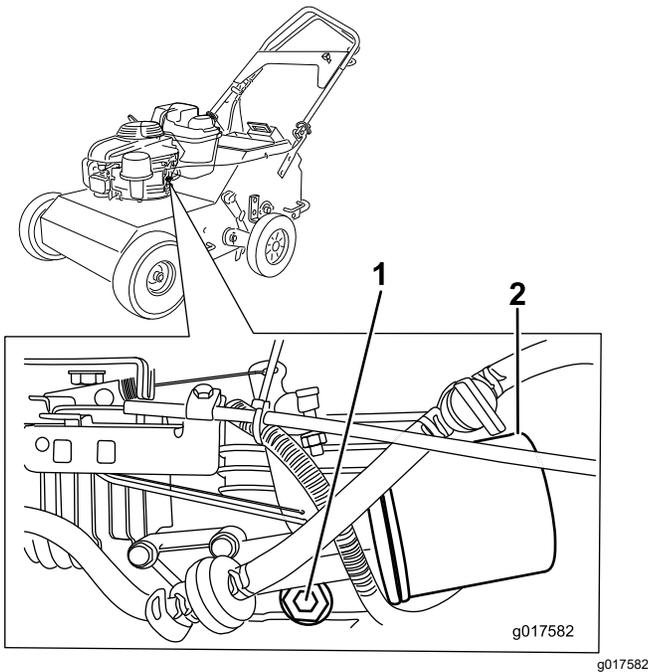

Figure 21
6. Remove the drain plug (Figure 21) and tip the machine so the oil flows to the pan.
2. Place a rag under the oil filter (Figure 21) to catch any oil that may leak out as you remove the filter.